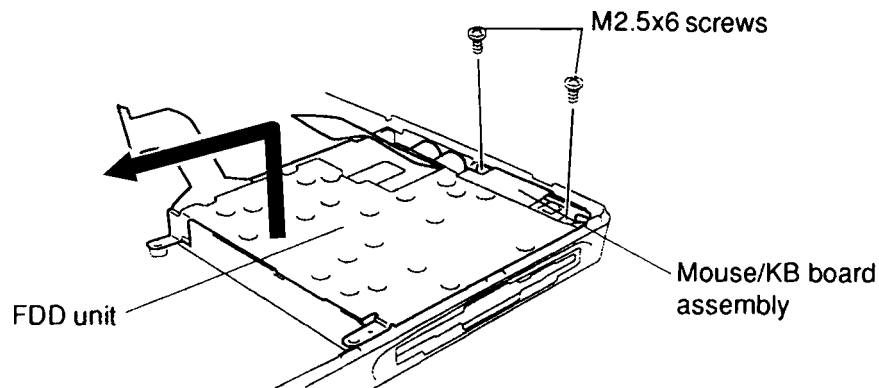

Figure 4-23 Removing the FDD and Mouse/KB Board
To remove the T1900/T1900C's floppy disk drive and mouse/KB board, follow the steps below and refer to Figures 4-23 through 4-25.
3. Remove the **two M2.5x6 screws** on the **mouse/KB board assembly** (Figure 4-23).
4. Lift the left side of the **FDD unit** with **mouse/KB board assembly** and slowly pull it to the left to remove the assembly from the chassis (Figure 4-23).
To install the T1900/T1900C's floppy disk drive and mouse/KB board, follow the steps below and refer to Figures 4-23 through 4-25.
3. Place the **FDD assembly** in the computer, right side first, and secure the **mouse/KB board** with **two M2.5x6 screws** (Figure 4-23).